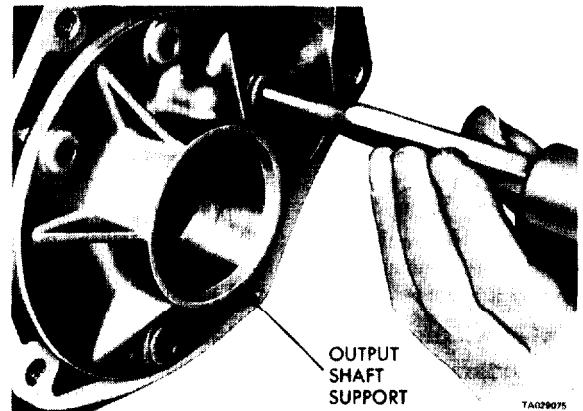

Figure 18-25. Removing Overrunning Clutch Cam.
(1) Remove the set screw from the case below the clutch cam.
(2) Remove the four bolts securing the output shaft support to the rear of the transmission case. Insert a punch through the bolt holes and drive the cam from the case (figure 18-25). Alternate the punch from one bolt hole to another so the cam will be driven evenly from the case.